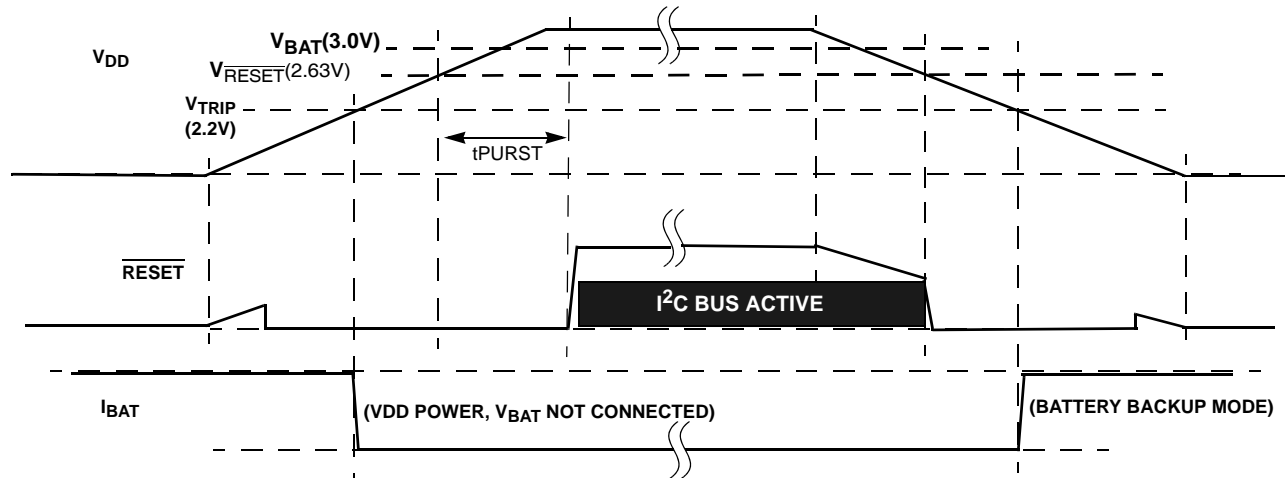

FIGURE 29. EXAMPLE RESET OPERATION IN MODE A OR C
- **Mode A** - In this mode selection bits indicate a low  $V_{DD}$  switchover combined with I2C operation in Battery Backup Mode. In actuality the  $V_{DD}$  will go below  $V_{RESET}$  before switching to battery backup, which will disable I2C ANYTIME the device goes into Battery Backup Mode. Regardless of the battery voltage, the I2C will work down to the  $V_{RESET}$  voltage (see Figure 29).
- **Mode D** - In this mode the selection bits indicate switchover to battery backup at  $V_{DD} < V_{BAT}$ , and no I2C communications in battery backup. This mode is unique in that there is I2C communication as long as  $V_{DD}$  is higher than  $V_{RESET}$  or  $V_{BAT}$ , whichever is greater. This mode is the safest for guaranteeing I2C communications only when there is a Valid  $V_{DD}$  (see Figure 29).